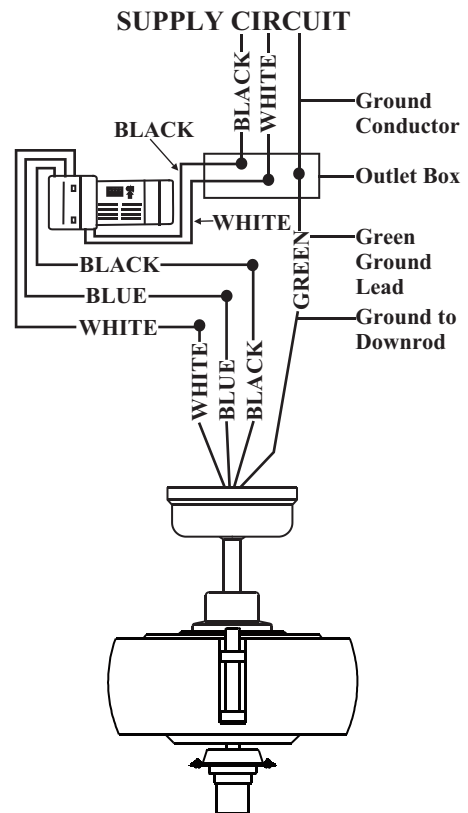

Figure 9
3. Motor to receiver electrical connections: Connect the black wire from the fan to black wire marked "TO MOTOR L". Connect the white wire from the fan to the white wire marked "TO MOTOR N" from the receiver. Connect the blue wire from the fan to the blue wire marked "For Light" from the receiver. Secure the wire connections with the plastic wire connecting nuts provided. (Fig. 9)
4. Receiver to house supply wires electrical connections: Connect the black (hot) wire from the ceiling to the black wire marked "AC in L" from the receiver. Connect the white (neutral) wire from the ceiling to the white wire marked "AC in N" from the receiver. Secure the wire connections with the plastic wire connecting nuts provided. (Fig. 9)
5. If your outlet box has a ground wire (green or bare copper) connect it to the fan ground wires; otherwise connect the hanging bracket ground wire to the mounting bracket. Secure the wire connection with a plastic nut provided. After connecting the wires spread them apart so that the green and white wires are on one side of the outlet box and black and blue wires are on the other side. Carefully tuck the wire connections up into the outlet box. (Fig. 9)